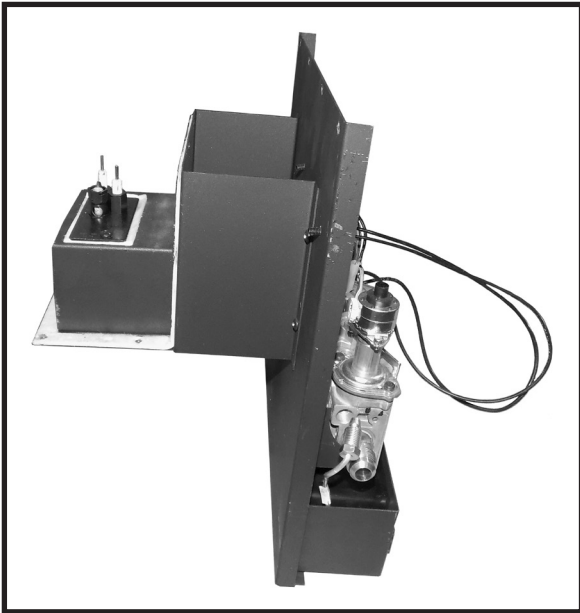

Figure 67: Control panel extracted from the unit.
17. The control panel (Figure 67) can now be extracted from the rear of the heater and serviced on a table top.